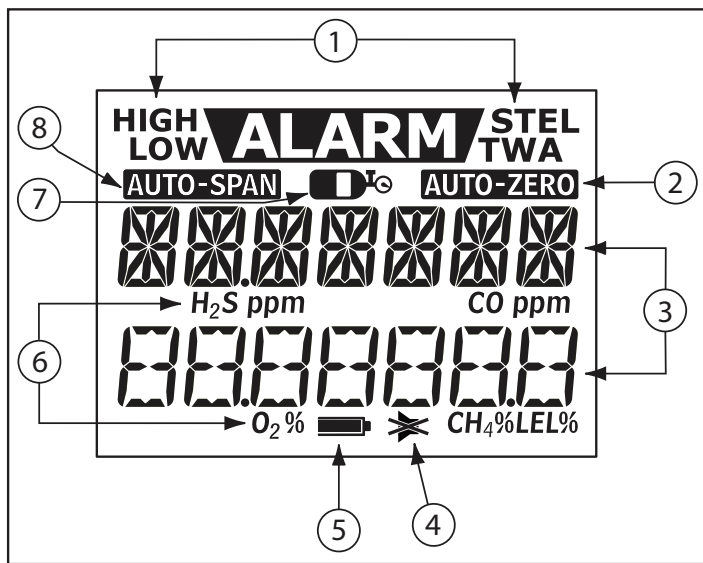

Figure 2. Display Elements
- Figure 2. and Table 4. describes the detector's display elements.